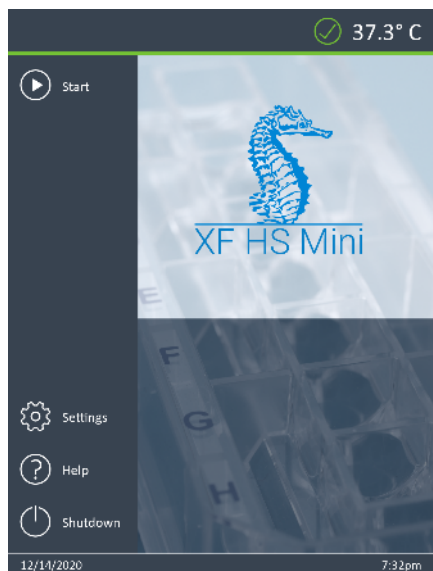

Figure 2. Home screen.
- 1 Click **Start** from the Home screen. See **Figure 2**.